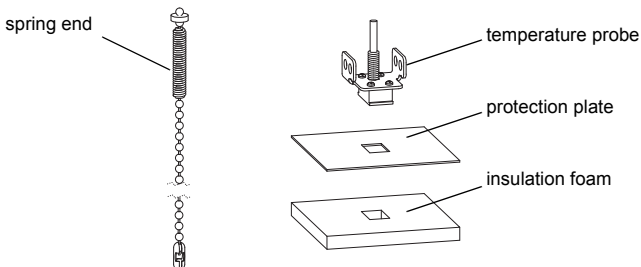

Fig. 9.6: Temperature probe
- Fix the protection plate and the insulation foam to the temperature probe (see Fig. 9.6).